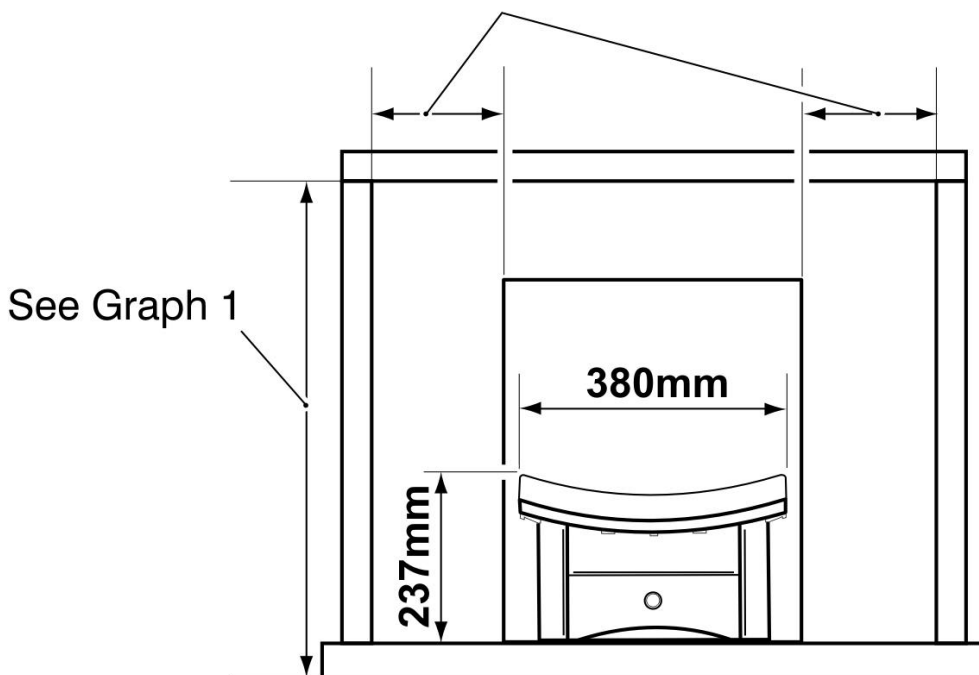

Figure 4. Appliance dimensions
3.14 Combustible side projections up to 75mm forward of the fixing plane of the fire are to be a minimum of 125mm from the fireplace opening (See figure 4)
3.14.1 Combustible side projections greater than 75mm forward of the fixing plane of the fire are to be a minimum of 178mm from the fireplace opening (See figure 4).
3.14.2 Non-combustible side projections to be 75mm from the fireplace opening (See figure 4)